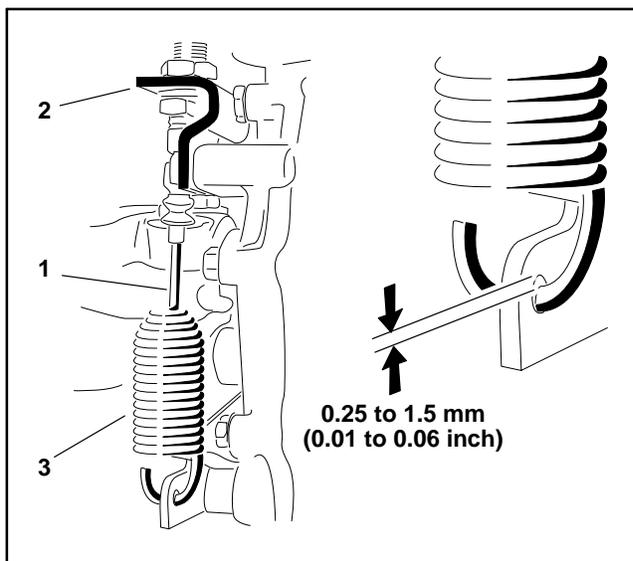

Figure 3
2. Loosen the jam nuts securing the differential-lock cable to the bracket on the transaxle (Fig. 3).